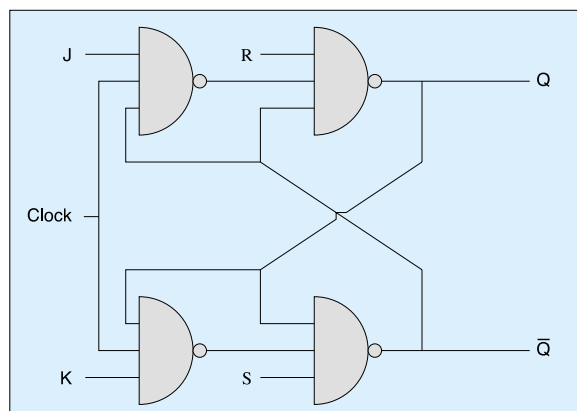

Figure 13: The JK flip-flop.
► indeterminate '1,1' state can never occur, it also means that the '0,0' state that holds the bit of information until reprogrammed is also impossible. That's not to say that the D flip-flop has no applications... far from it, because, whenever the clock is '1', the output 'Q' takes the value at 'D' and holds it until the next clock pulse. As you will see, there are many uses for this, but if we want a programmable memory *without* the indeterminate state, we must take a final step in our journey into the world of digital logic, with the introduction of the JK flip-flop (see Figure 13, below).